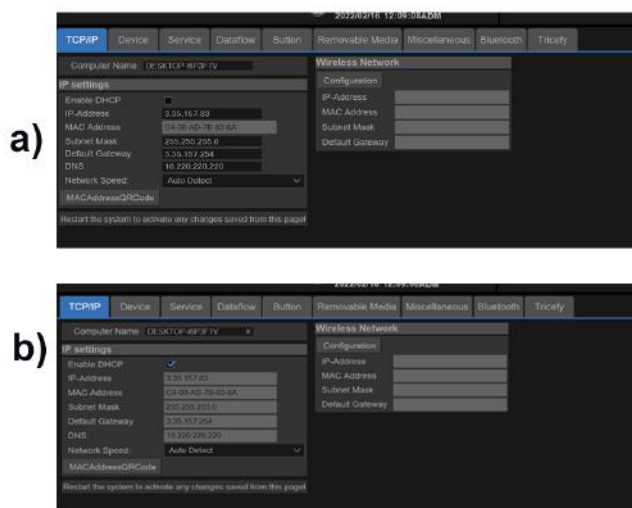

Figure 8-5. Record IP Setting
- If “Enable DHCP” is not selected, record all the information about IP setting. Refer to a) in Figure 8-5 on page 8-14.
- If “Enable DHCP” is selected, only record Computer name and Network Speed. Refer to b) in Figure 8-5 on page 8-14.